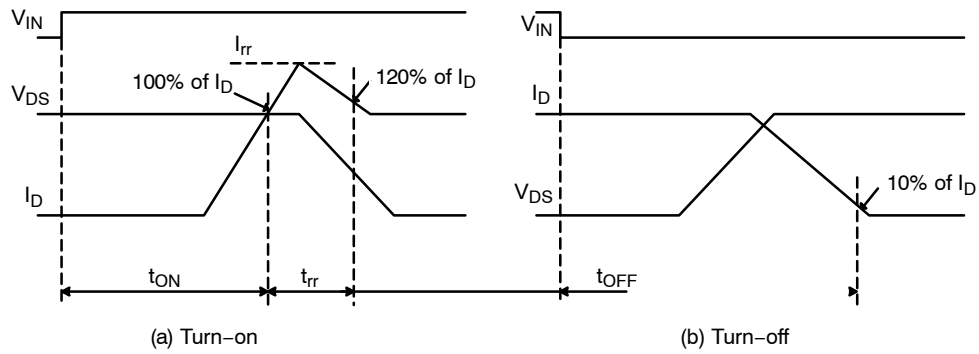
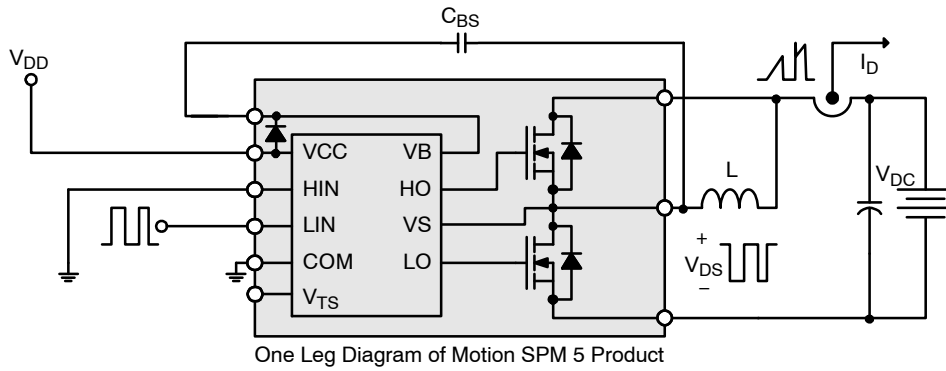

Figure 6. Switching Time Definitions
Figure 7. Switching and RBSOA (Single-Pulse) Test Circuit (Low-Side)
5. t_{ON} and t_{OFF} include the propagation delay of the internal drive IC. Listed values are measured at the laboratory test condition, and they can be different according to the field applications due to the effect of different printed circuit boards and wirings. Please see Figure 6 for the switching time definition with the switching test circuit of Figure 7.
6. The peak current and voltage of each MOSFET during the switching operation should be included in the Safe Operating Area (SOA). Please see Figure 7 for the RBSOA test circuit that is same as the switching test circuit.